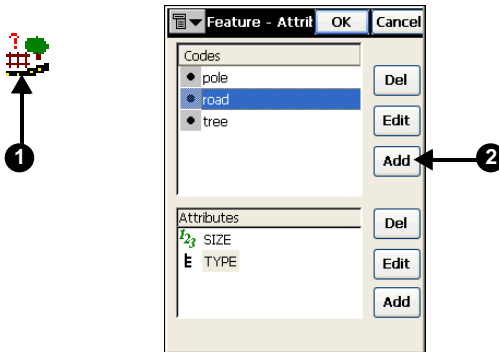

Figure 2-15. Add New Code to Layer (Shapefile)
2. Next to the *Code* panel, press **Add** to add a new code. Or select a code and press **Edit** (Figure 2-15 on page 2-14).